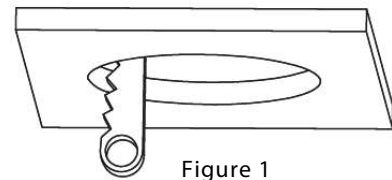

Figure 1
2. After marking the center point of where the fixture will be located, using the provided template cut the required hole shown in figure 1 which has a diameter of 4 inches or 108mm.